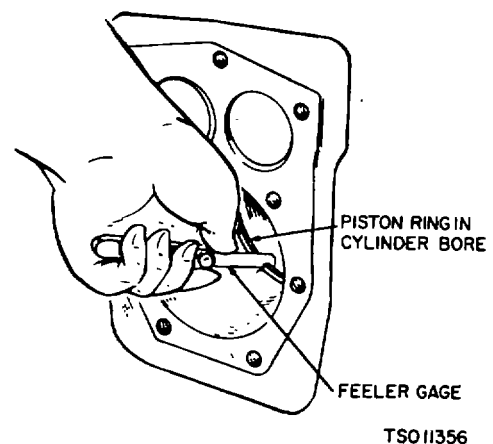

Figure 6-23. Fitting Piston Rings to Cylinder
(1) Before installing new rings on the piston, check the ring gap by placing each ring squarely in its cylinder at a position corresponding to the bottom of its travel.(See figure 6-23.) The piston ring gap in cylinder should be 0.010 min. to 0.023 max. Rings which are slightly oversize may be filed as necessary to obtain the correct gap, but do not use rings which require too much filing. Standard size rings may be used on .005-inch oversize pistons. Other oversize rings must be used with corresponding oversize pistons. Rings of the tapered type are usually marked top on one side or identified in some other manner and the ring must be installed with this mark toward the closed end of the piston.